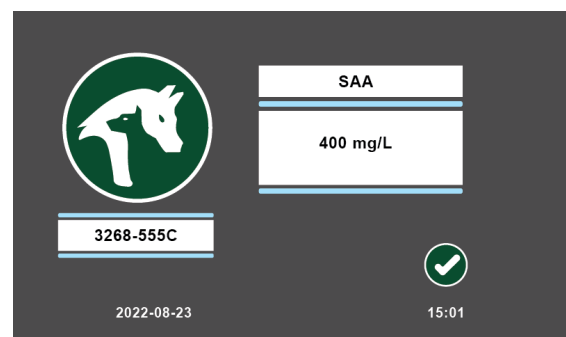

Figure 21. Test result screen
19. Tap Accept icon  when the result is read on the screen in Figure 21.